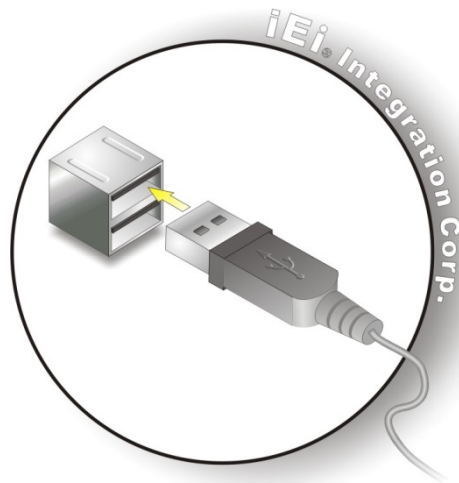

Figure 3-8: USB Device Connection
Step 2: Align the connectors. Align the USB device connector with one of the connectors on the AFL3-W07A-BT. See **Figure 3-8**.